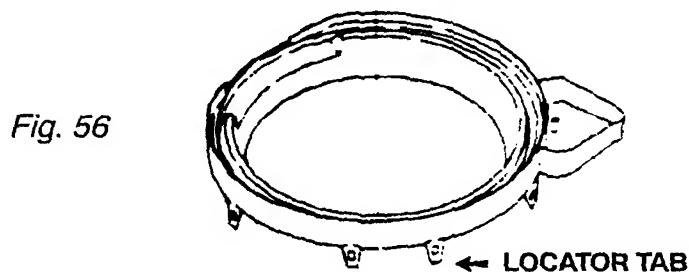

Fig. 56
2. If it is necessary to remove the inner basket, begin by removing the tub ring by unsnapping the slots from the tabs on the tub. There are a total of eight tabs, one of which is a locator tab and which has a narrower slot than the others. (Fig. 56)